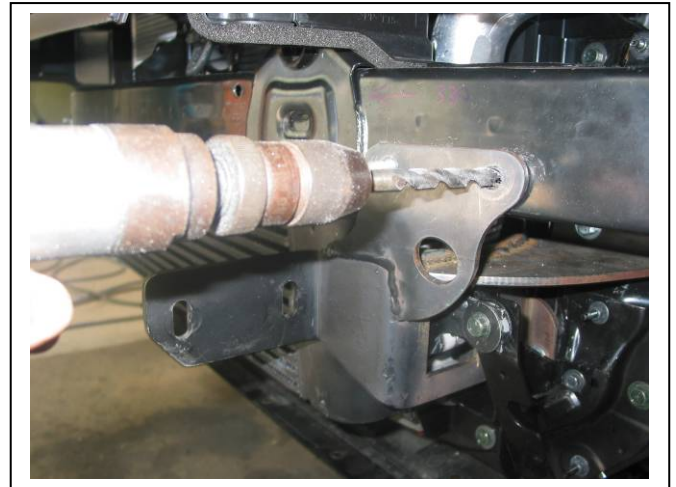

Figure 8 – Using 10mm drill in top of ECB mount bracket
15. Using ECB Steel mounting brackets as a guide, drill two 10mm holes (per side) in front of bumper support. **See figure 8. NOTE: Blow all filings from chassis and treat all drilled holes with paint or rust proofing as installing.** Fit two 3/8 x 1 1/4 bolts and washers on 300mm wire (per side) into end of bumper support to line up with holes, Secure with 3/8 nuts, spring washers and flat washers. **Tighten all bolts.**